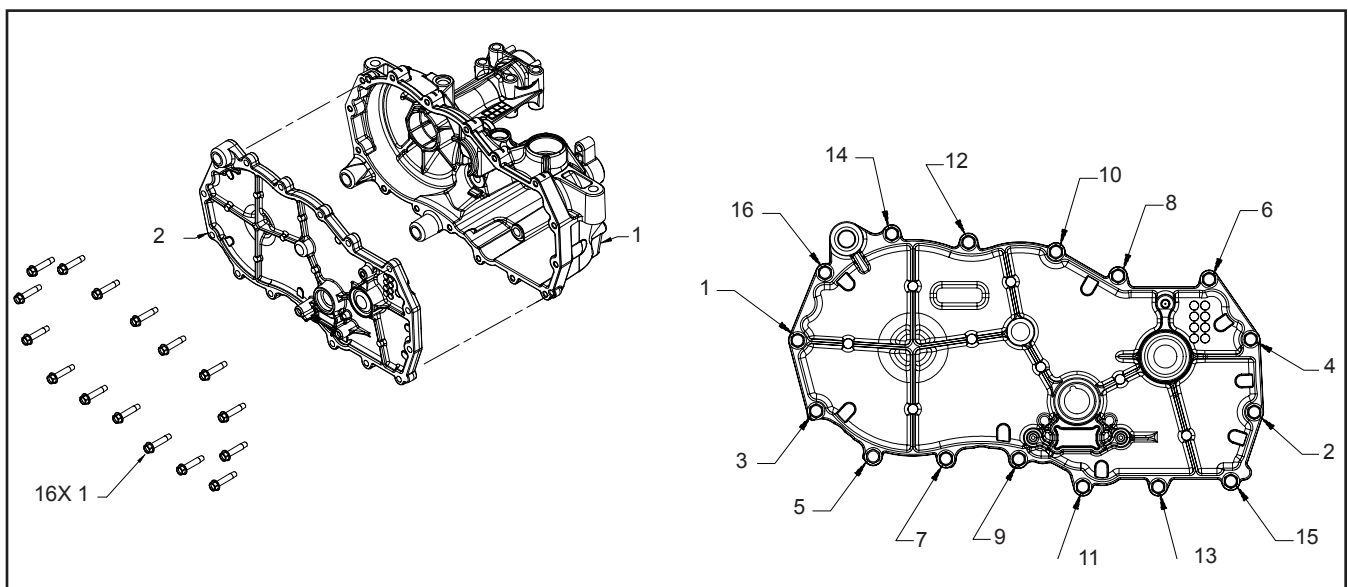

Figure 6. Side Cover
Refer to figure 6.
5. Remove the side housing screws (7).
6. Pull the side housing (2), leaving the axle (94) and bull gear (91) assembled in the main housing. It may be necessary to use pry tools at the pry points to break loose the sealant (positions 1-16 and 4-6, Figure 6).
2. Install the side housing (2). Use care not to smear the sealant bead.
3. Install the side housing screws (7). Refer to the screw tightening pattern in Figure 6 and torque specification in Table 2 on page 36.